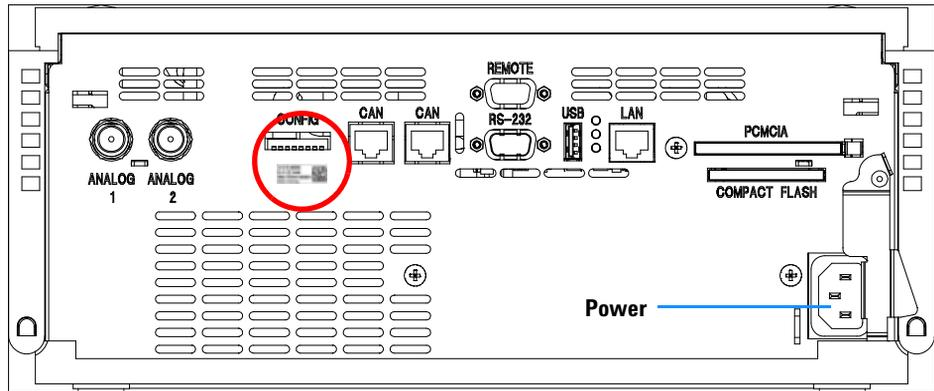

Figure 3 Rear View of Detector
- 1 Note the MAC address of the LAN interface (rear of the module, under the configuration switch, see Figure 3 on page 25). It's required for “LAN Configuration” on page 31.